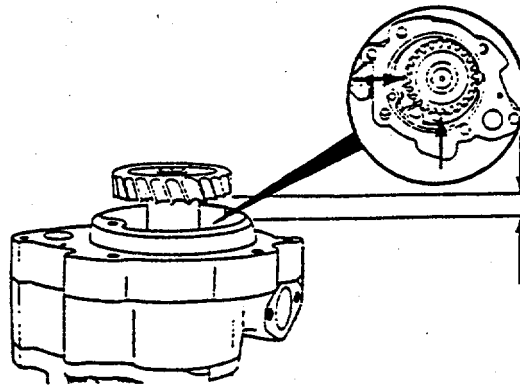

FIGURE 3-48. Drive Shaft End Clearance.
- d. Remove two assembled washer machine screws (17) and remove access cover (16) and gasket (15). Discard gasket.
- i. Use depth verniers to measure drive shaft (30) end clearance (Figure 3-48) in two locations 90° part. Drive shaft end clearance should be as follows: